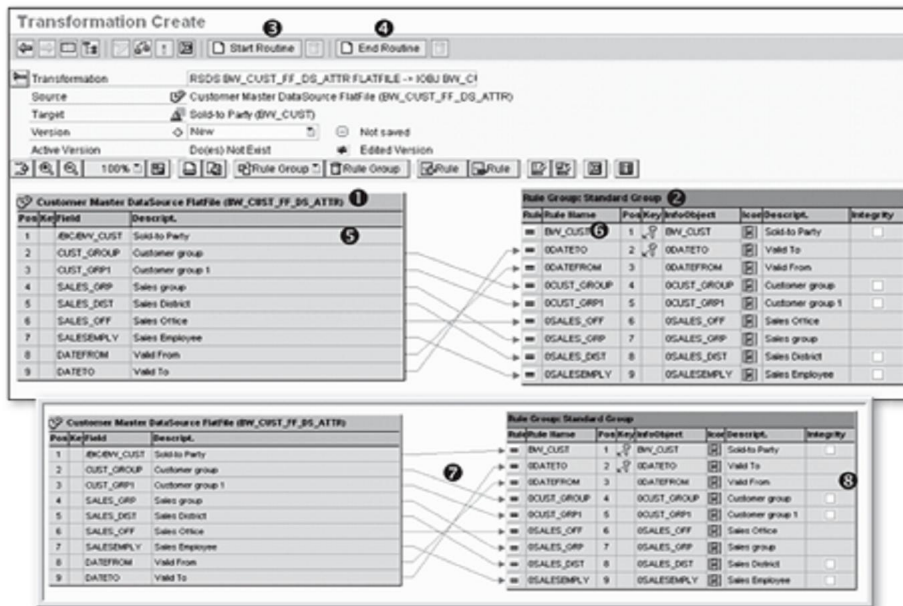

Figure 7.22 Making a Transformation
Click on the Continue icon, which brings you to the Transformation screen (Figure 7.22). On the left side of the screen is the source object of the transformation; on the right is the target object of the transformation. SAP NetWeaver BW is able to find the matching InfoObject for all of the fields from the DataSource, with the exception of the InfoObject BW_CUST; this is because all of the other InfoObjects are from SAP Business Content. For InfoObject BW_CUST, you must instruct the system that the /BIC/BW_CUST field should be connected to InfoObject BW_CUST.
To accomplish this task, drag and drop /BIC/BW_CUST over InfoObject BW_CUST (⑥ of Figure 7.22). This action completes the transformation and is known as a *direct assignment* transformation, which means that the data received by the DataSource field /BIC/BW_CUST is passed to InfoObject BW_CUST in as-is format (without any change). The other types of transformation are discussed in Section 7.3.2, Step 3: Creating a Transformation. The completed transformation is shown in ⑦ of Figure 7.22.